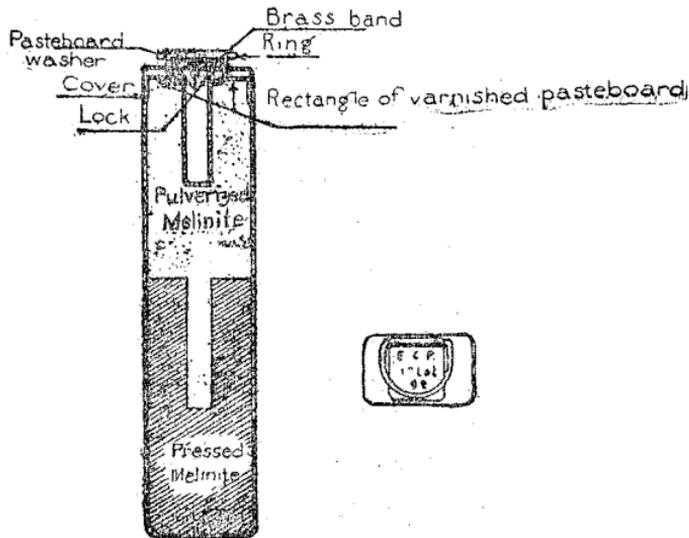

FIG. 77.—Four ounces, 333 grains petard.
*Melinite petard.*—Brass envelope of elongated shape with rectangular cross section, with a welded cover carrying the primer seat, and containing 4 ounces, 333 grains of melinite. (Fig. 77.) The primer seat carries three small brass vanes, designed to hold the primer when it is introduced into the seat. It is closed by a pasteboard washer and band with a ring, which must be removed to uncover the primer seat.